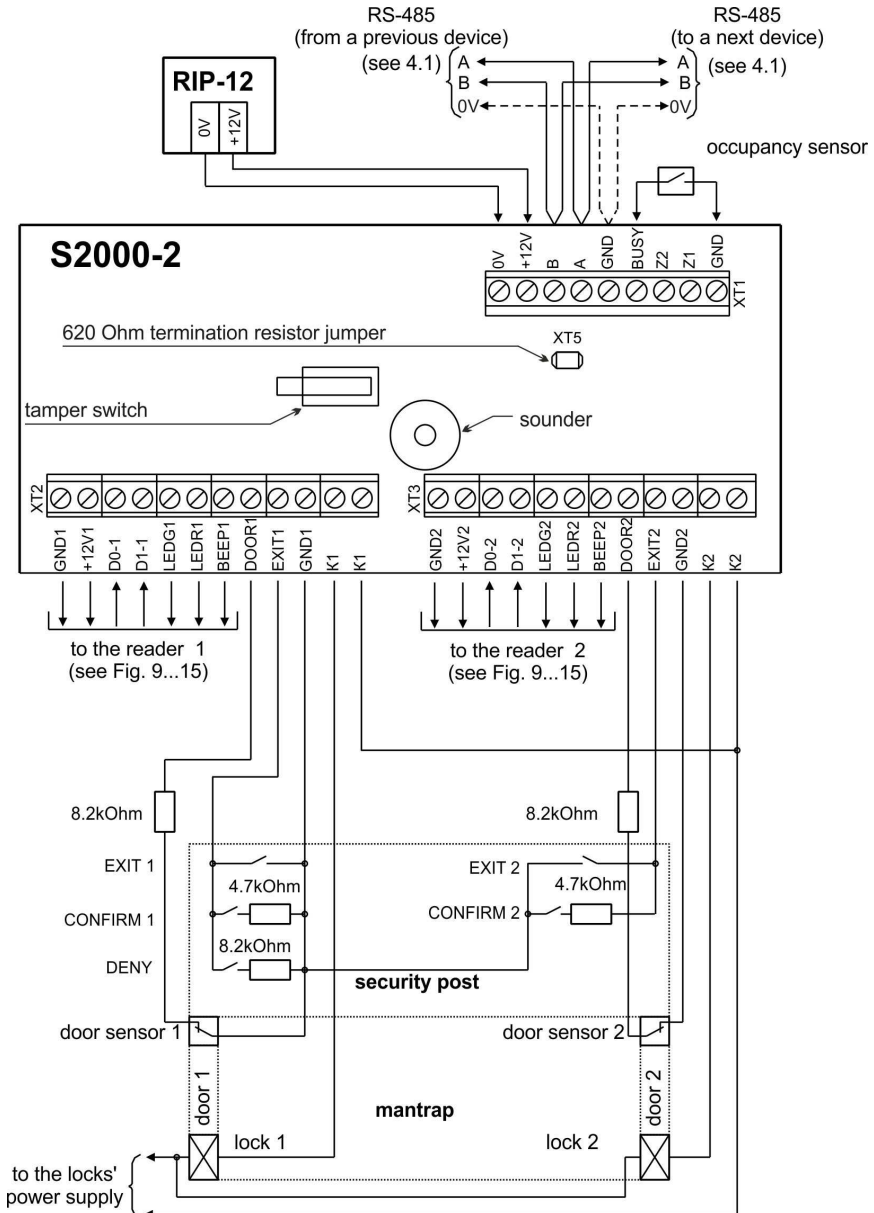

Figure 23. Wiring the S2000-2 for the Mantrap Operation Mode
4.11.2 Connect door open sensors to the DOOR1, GND1, DOOR2, GND2 terminals of the controller (see Figure 23).